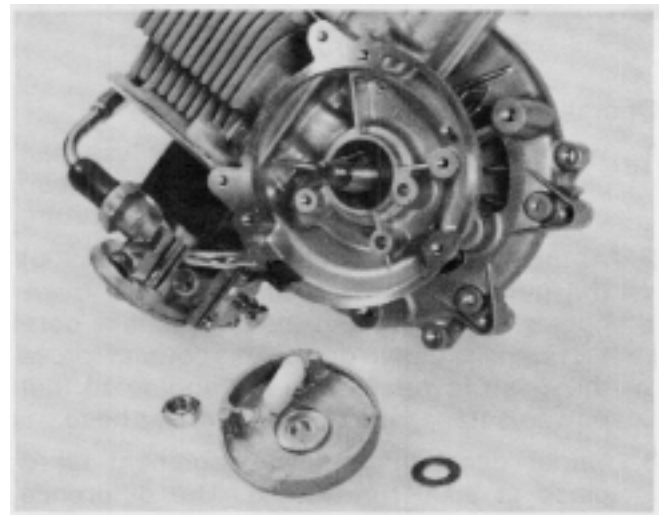

Figure 70
2. Insert the pawl and spring assembly into the starter pulley hole marked "R". See Fig. 70.